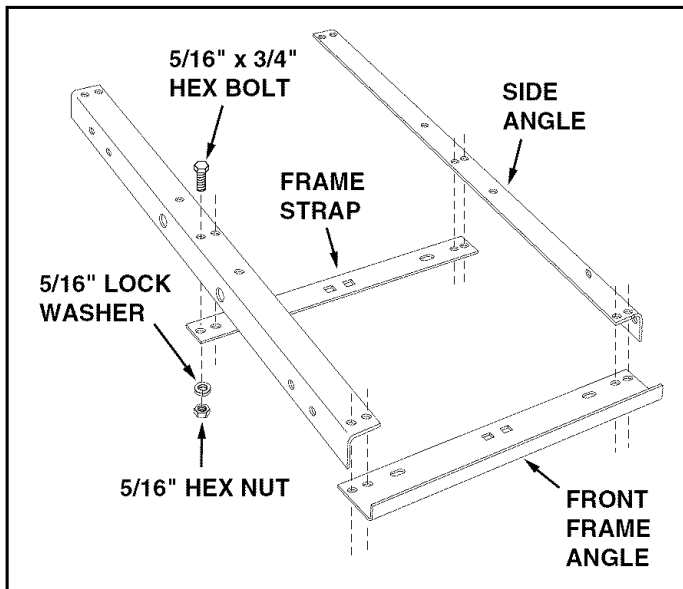
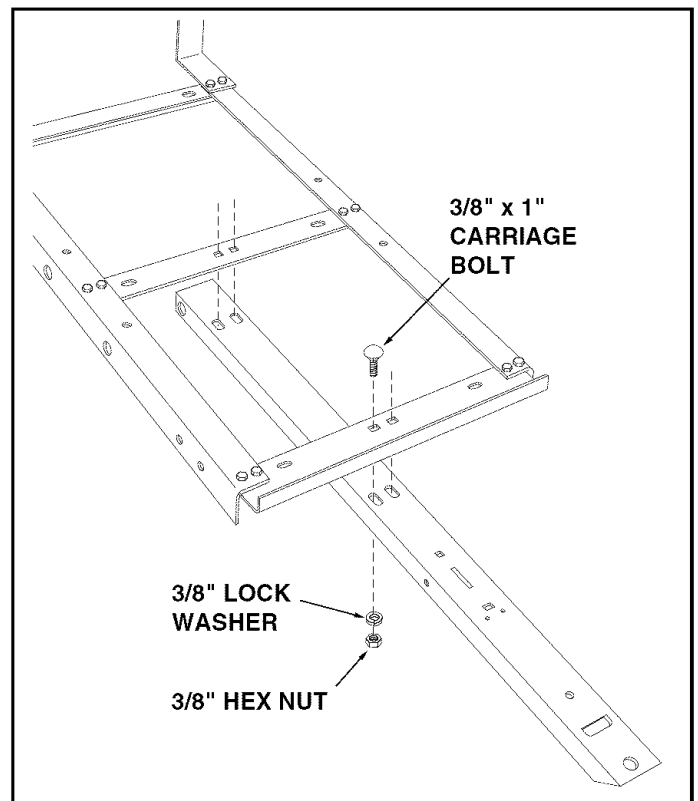
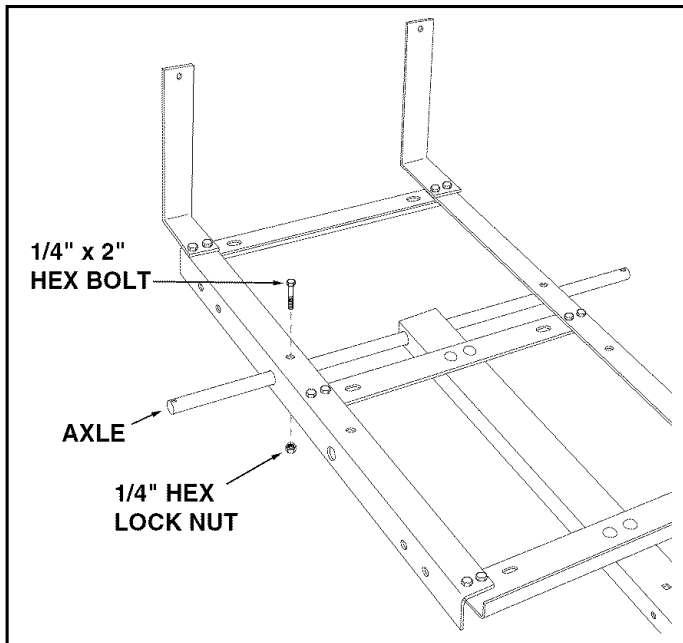

FIGURE 1
FIGURE 3
FIGURE 4
2. Assemble the frame strap and the front frame angle to the bottom of the two side angles as shown in figure 1. Use eight 5/16" x 3/4" hex bolts, 5/16" lock washers and 5/16" hex nuts. **Do not tighten yet.**
4. Assemble the tongue to the bottom of the front frame angle and the frame strap using four 3/8" x 1" carriage bolts, 3/8" lock washers and 3/8" hex nuts as shown in figure 3. **Do not tighten yet.**
- Assemble the axle through the side angles and the tongue. Fasten the axle to the side angles using two 1/4" x 2" hex bolts and two 1/4" hex lock nuts. **Do not tighten yet.** See figure 4.
13. **Tighten** securely the 12 bolts and nuts fastening the frame strap and the front and rear angles to the side angles. (Figures 1 and 2) **Tighten** only until snug the 2 bolts and nuts fastening the axle to the frame. (Figure 4) **Tighten** securely the 4 nuts fastening the tongue to the frame. (Figure 3)